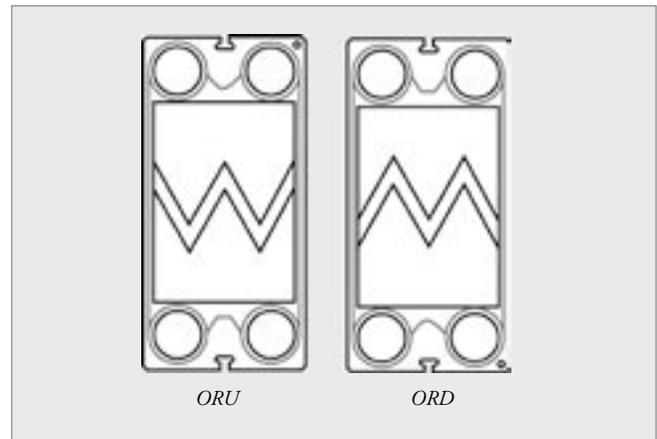
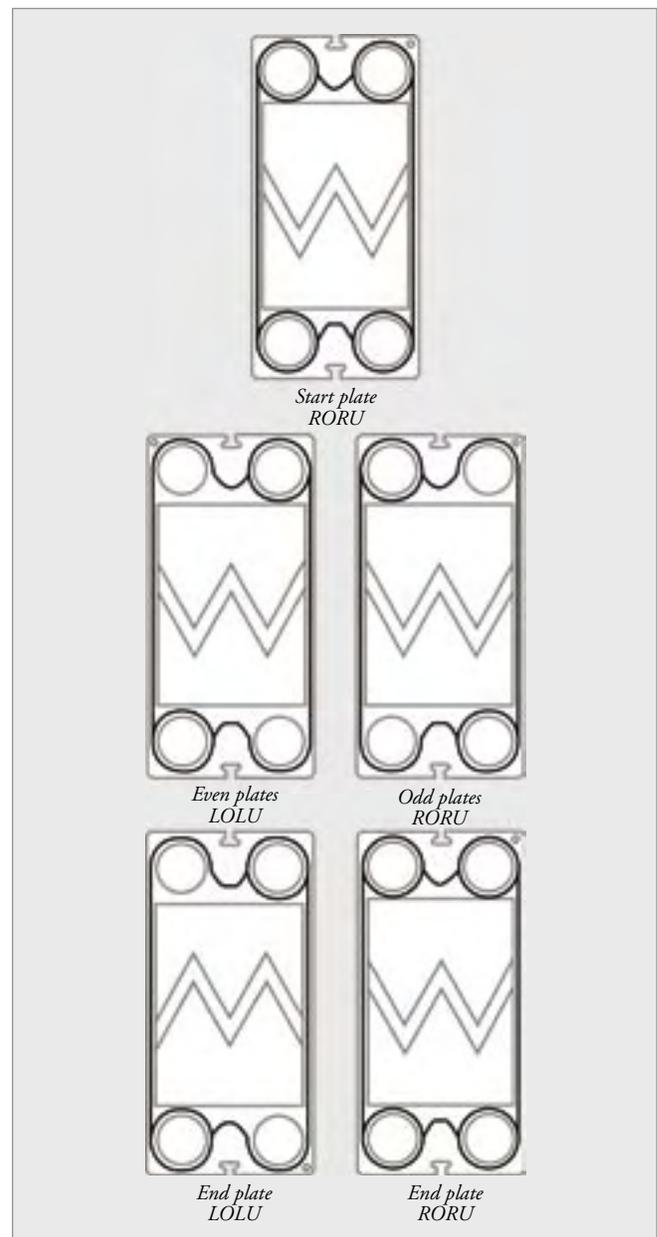

Figure 45
Figure 46
1. Attach half-A gasket to the start plate in the RORU orientation, as in Figure 46. Hang by the ORU orientation, as shown in Figure 45.
2. Attach B gaskets to even plates by the LOLU orientation. (See Figure 46.) Hang by the ORD orientation, so the “O” is in the lower right corner. (See Figure 45.) This is equivalent to Channel B.
3. Attach A gaskets to odd plates by the RORU orientation, as shown in Figure 46. Hang by the ORU orientation, as in Figure 45. This forms a Channel A.
4. Attach B gasket to end plate by the LOLU orientation, and attach half-A gasket to the backside of the end plate by the RORU orientation. (See Figure 46.) Hang by the ORD orientation with B gasket facing inside. (See Figure 45.) This completes the plate pack.